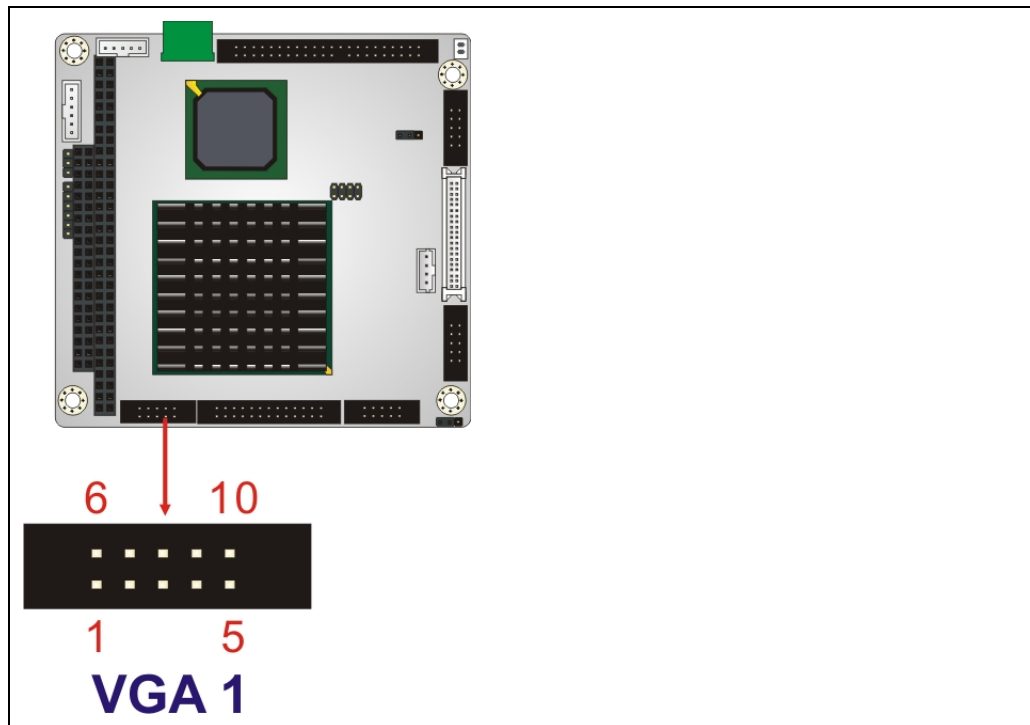

Figure 3-20: VGA Connector Location
- CN Location: See Figure 3-20